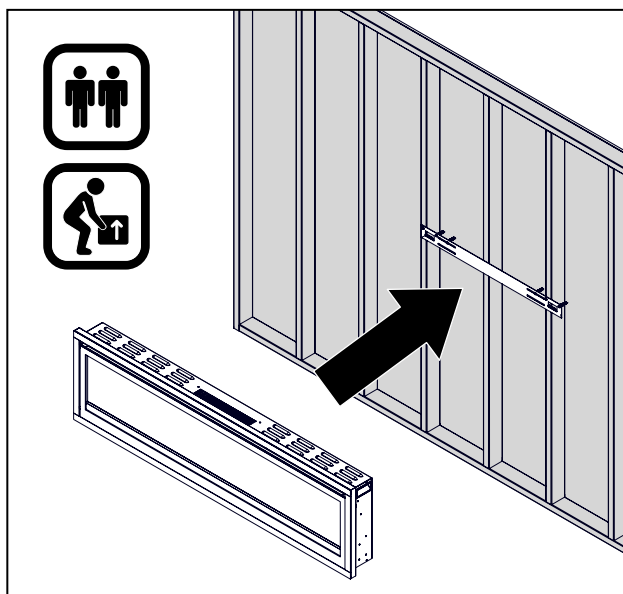

Fig 3
STEP 5: With the wall mounting bracket installed have two people lift the appliance up and insert the two hooks on the bracket into the two slots on the back of the appliance (**Fig3**).
STEP 1: Remove the silver screw at the bottom of the appliance. Set the screw aside, refer to Figure 3.